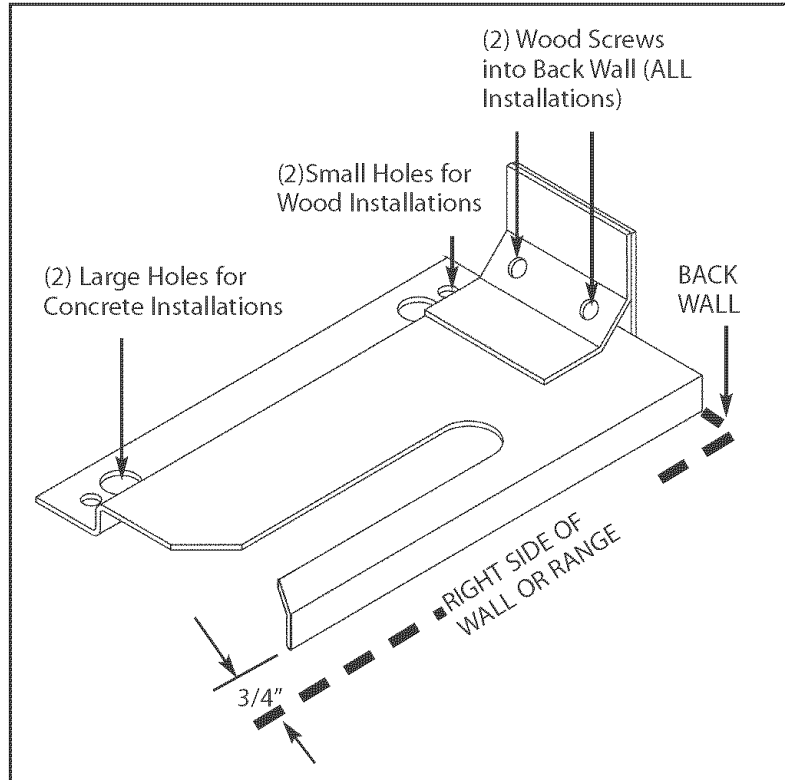

FIG. 13
Place the bracket against the back wall, into the right rear corner where the range is to be located. Leave a gap between the wall (or side of range) and the bracket of 3/4". Drill (2) 1/8" diameter pilot holes in the center of the small holes. A nail or awl may be used if a drill is not available. Fasten the bracket securely to the floor and wall. See Fig. 13.